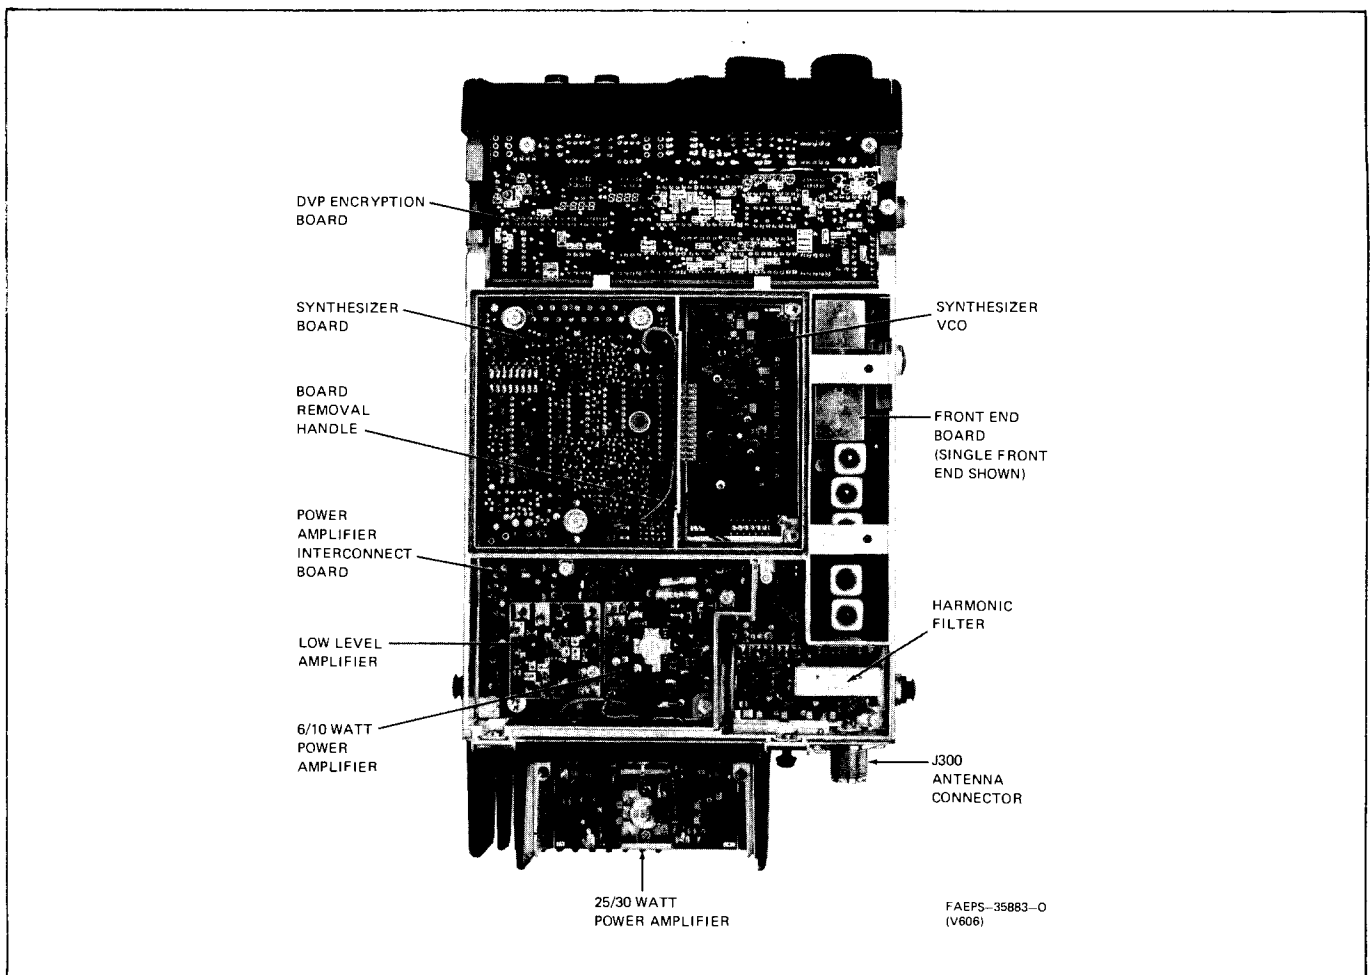

Figure 2. *DVP MCX100 Radio Set-Bottom Cover Removed*
3.4 30 WATT POWER AMPLIFIER (Refer to Figure 2)
(Refer to Figure 2)